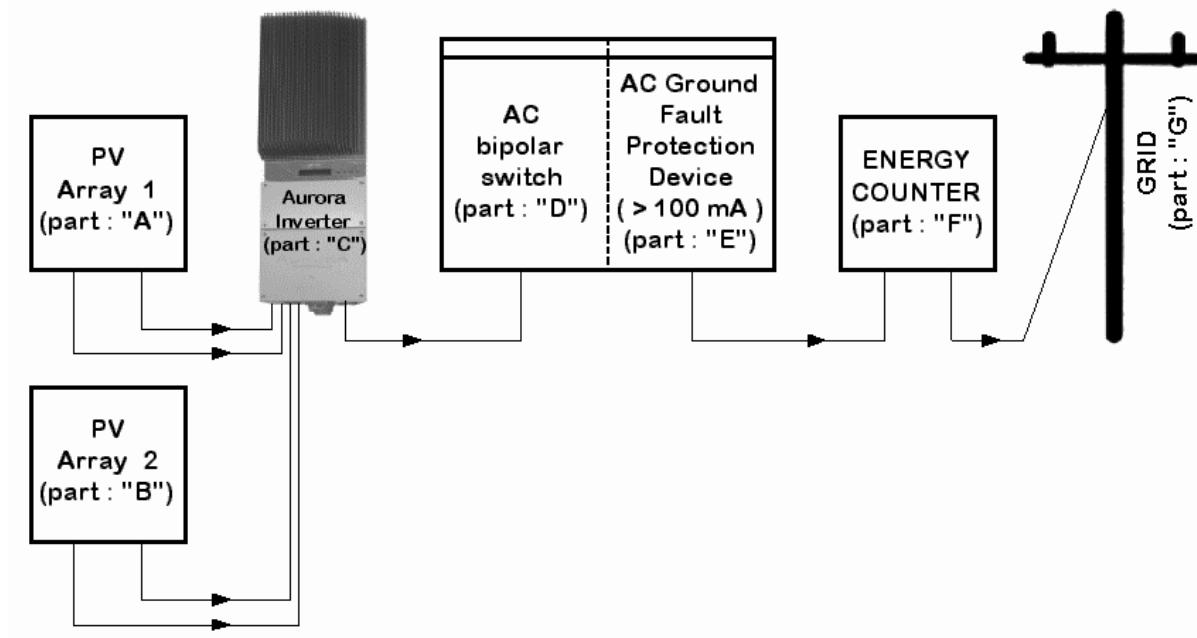
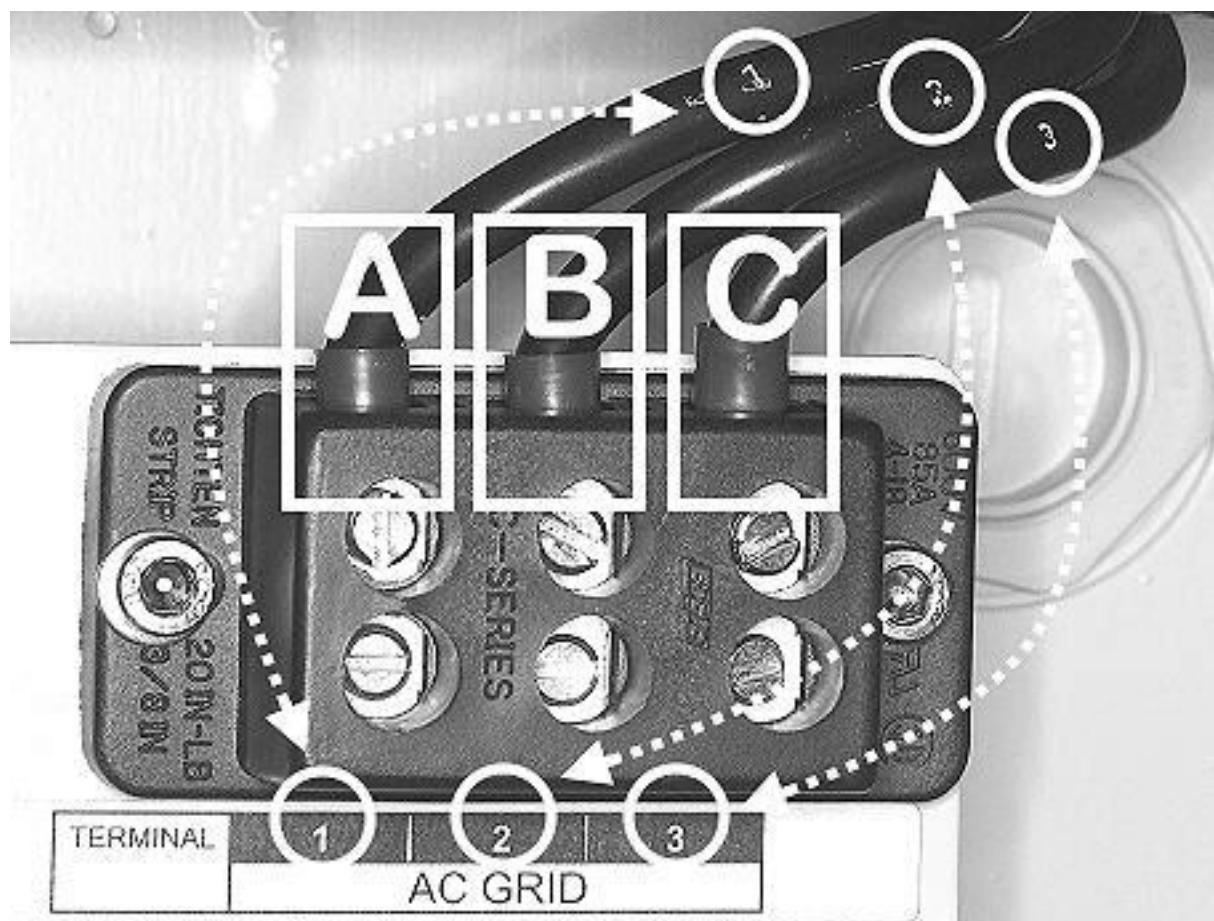

Fig.9 - Electrical connection diagram
Fig.15 - Terminal block for A.C connection
AURORA and the distribution grid (see fig 9: Electrical connection diagram)
STEP 1 If the inverter is connected to the AC Grid (Fig 15-“terminal block for AC connection” – pos. "1", "2" e "3") DISCONNECT the inverter from the AC Grid by opening the switch indicated as Part “D” in Fig 9-“Connecting Diagram”
WARNING: the switch Box disconnect the DC current from the photovoltaic panels when the switch in pos 'E' (see the electrical schematics in Fig.11 SD-01 – Electrical Schematics D.C. Switch Box" and not the AC line going to the Grid. To disconnect the inverter from the Grid the AC switch (not included in the Switch Box) shall be disconnected (see fig 9"connection diagram)
Step 1: Disconnect from the AC Grid by turning off the "AC Bipolar Switch" – Part "D" in fig. 9 "Electrical connecxtion diagram"
STEP 2: Disconnect the inverter from the A.C Grid using the A.C disconnect switch shown as "Part "D" in Fig. 9 – " Connection diagram "